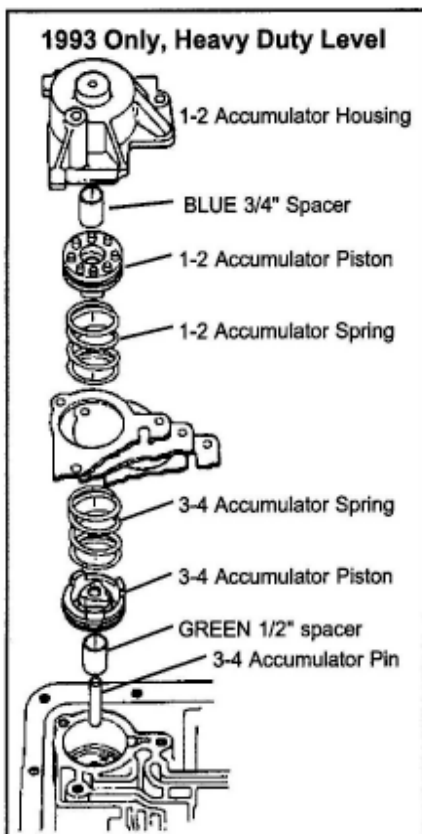

Figure 7. 1993 Accumulators Heavy Duty Level Modifications
STEP 12. Heavy Duty Level Only; (See Figures 7 or 9) Place the 3-4 Accumulator Pin in the case. Over the pin place the Spacer, 3-4 Accumulator Piston and Stock Spring (spring is installed at step 14).